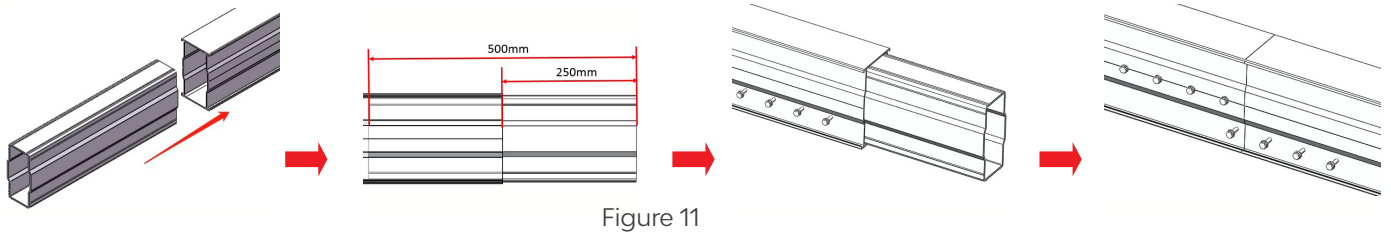

Figure 11
5.2.1 In order to form a longer section, first insert Splice halfway into end of T-Rail 168, and fasten by self-drilling screws as shown in Figure 11.